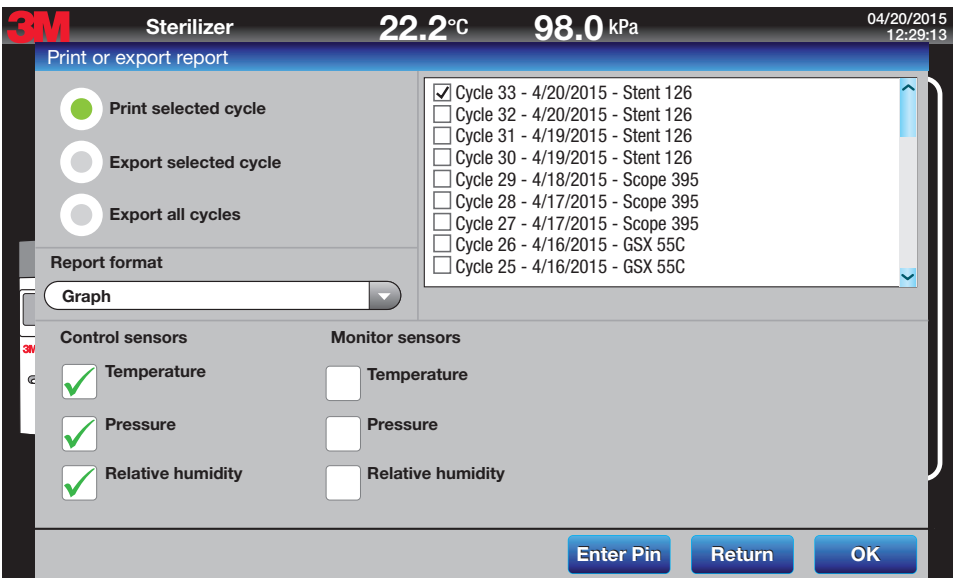

Figure 11.
Figure 11 outlines the options for 3M™ Steri-Vac™ Sterilizer/Aerator GSX Series Cycle Reports.
The GSX Series sterilizer has control sensors for temperature, %RH, and pressure that provide information to the control embedded software. In addition, the sterilizer has a duplicate set of monitoring sensors that provide independent data and performance monitoring during critical sterilization stages for temperature, %RH, and pressure. The sterilizer defaults to report only on the control sensors. Monitoring sensors can be selected for reporting in the Cycle Report options screen in Figure 11.
There are three (3) Cycle Report formats. The desired format can be selected in the Cycle Report options screen (Figure 11). Each of the Cycle Report formats is described in Chapter 17 in Table 6.